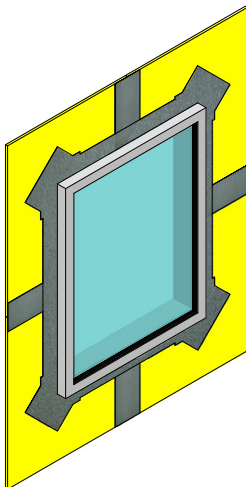

Figure 15
11. Install window per window manufacturer's instructions. (See Figure 15)